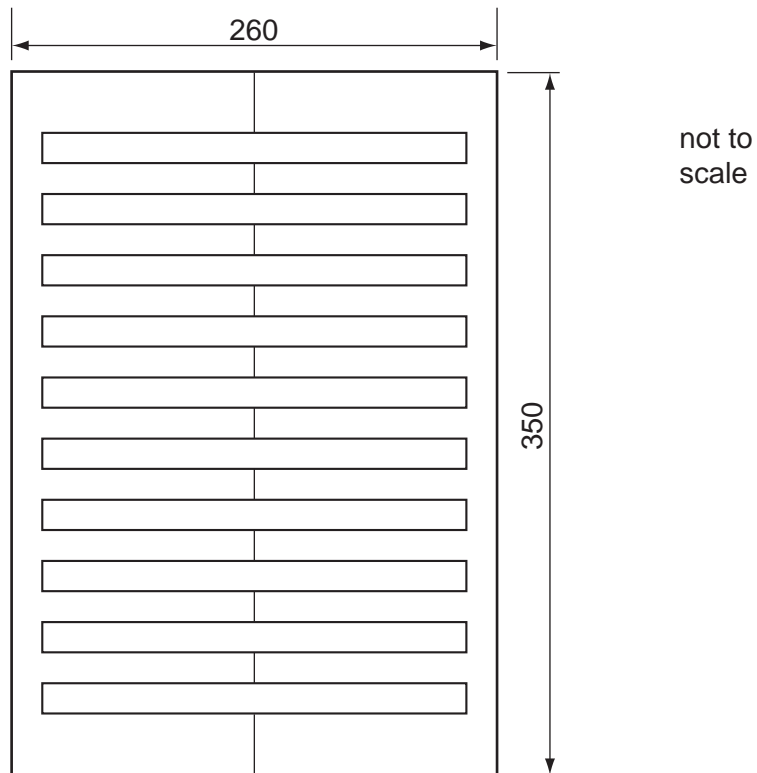

Fig. 12
- (d) Fig. 12 shows a sheet of acrylic with slots cut out. It is marked out ready to be bent to shape.